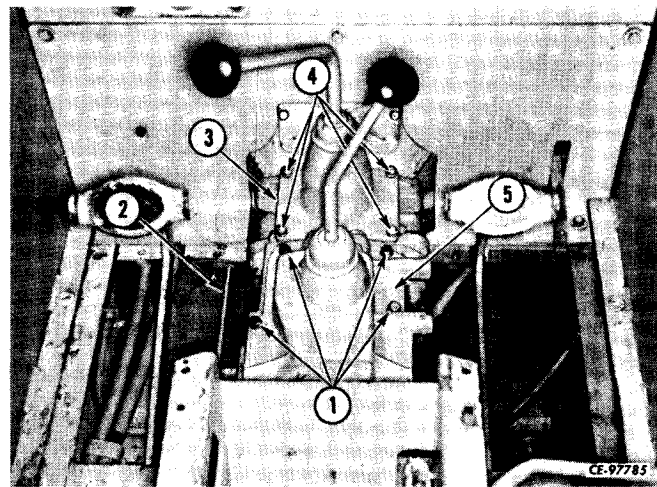

Figure 2-14
Remove cap screws and lock washers (1, 4, Fig. 2-14) and remove gear shift lever housings (3, 5). Disconnect clutch pedal control rod (2) from clutch lever on bellcrank.
Position transmission control lever housings (3, 5, Fig. 2-14) and gaskets on transmission case and install and tighten cap screws and nuts (1, 4). Connect clutch pedal rod (2) to clutch.